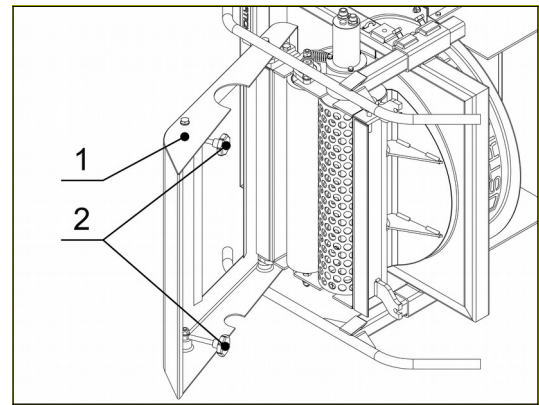

Fig. 53
2. Loose the star nuts (Fig. 53, No. 2) and open the stainless steel cover (Fig. 53, No. 1).
5. Close the stainless steel cover (Fig. 53, No. 1) and secure it by thorough tightening the star nuts (Fig. 53, No. 2).